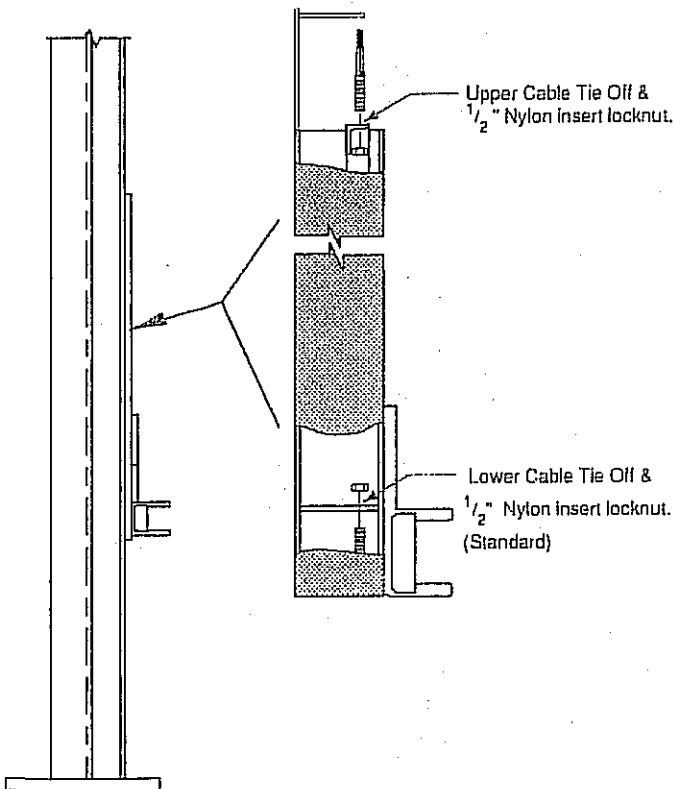

Fig. 22
**20. Final Adjustments:** Raise lift to check equalizer cable tension. Below carriage, grasp adjacent cables between thumb and forefinger, with about 15 lbs. effort you should just pull the cables together. Adjust at upper tie-offs Fig. 22.